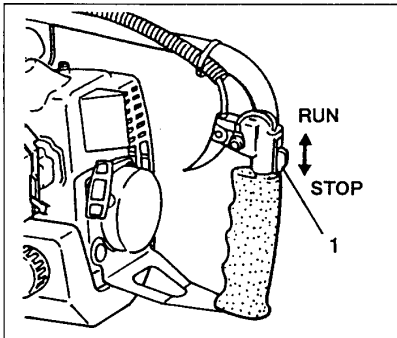

Fig. 2-2
1. Set ignition switch (1) to (RUN) position. (Fig. 2-2, 2B)